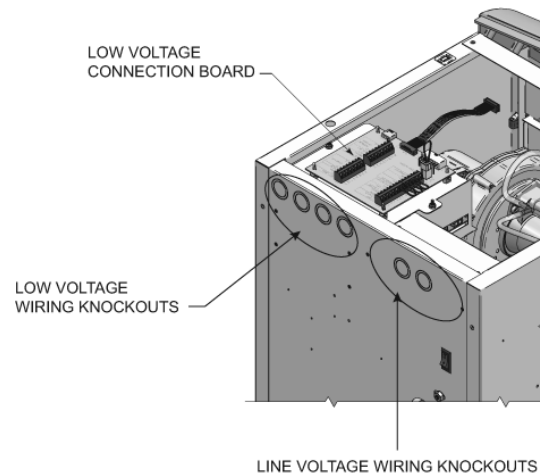

Figure 71. Routing Field Wiring (Models 150 - 285)
1. Route all low voltage wires through the knockouts in the rear of the water heater, as shown in Figure 71.